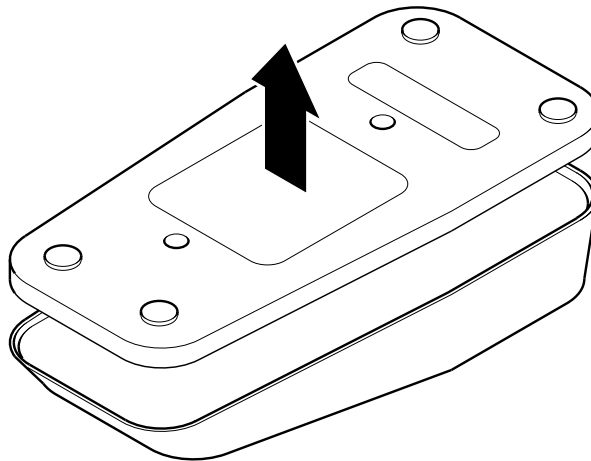

Figure 14: Case removal
2. Figure 14 Remove the case from the cover assembly.